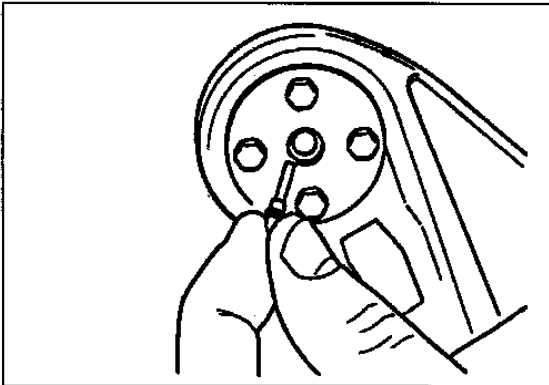

Figure 26 Position Contact into Hand Crimping Tool
2. Position contact into Deutsch HDT-4800 hand crimping tool (or equivalent) so that the crimp barrel is 1/32 inch (0.8 mm) above the tool indenters (Figure 26). Hold contact in place by hand or by lightly squeezing the tool.